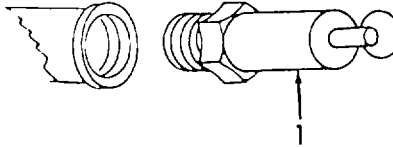

Figure 3-30. Safety Valve, Installation.
- e. Installation. Install the safety valve (1, Figure 3-30).